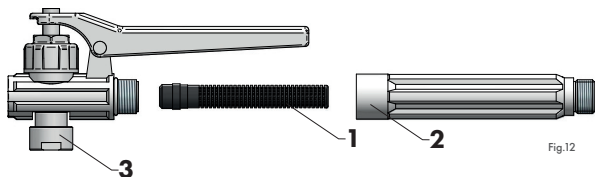

Fig.12
Move the foamer to the work site. Use the piston rod (fig. 7c) to pump the sprayer (around 20 full motions) until the safety valve operates (fig. 7a/pos. 1). As soon as the safety valve opens (fig. 7a/pos. 1), maximum tank pressure has been reached. Monitor the tank pressure on the pressure gauge (fig. 12/pos. 3).
During operation, the pressure in the tank will decrease. Monitor the pressure on the pressure gauge (fig. 12/pos.3). Restore the tank pressure by pumping.
The filter (fig. 12/pos. 1) located on the lance handle (fig. 12/pos. 2) and the foamer insert and nozzle (fig. 10/pos. 1 and 2) located at the lance tip (fig. 1/pos. 1) must be cleaned periodically and before any prolonged downtime.
| Low lance output pressure (fig. 1/pos. 1). | Clogged filter (fig. 12/pos. 1) in the lance handle assembly (fig. 12/pos. 2). | Remove handle (fig. 12/pos. 2), check filter condition (fig. 12/pos. 1). Remove any contaminants. |